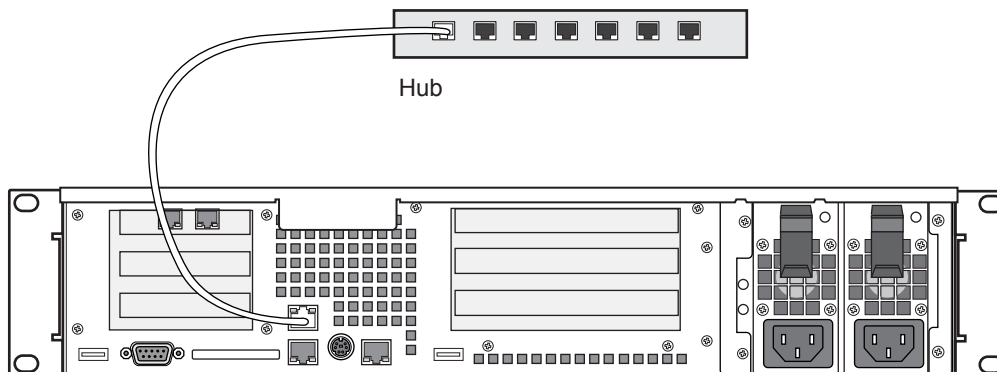

Figure 3-2 Connecting to the System Remotely
2. Connect the other end into the Management port. Figure 3-2 shows the Management port module connected to a hub.